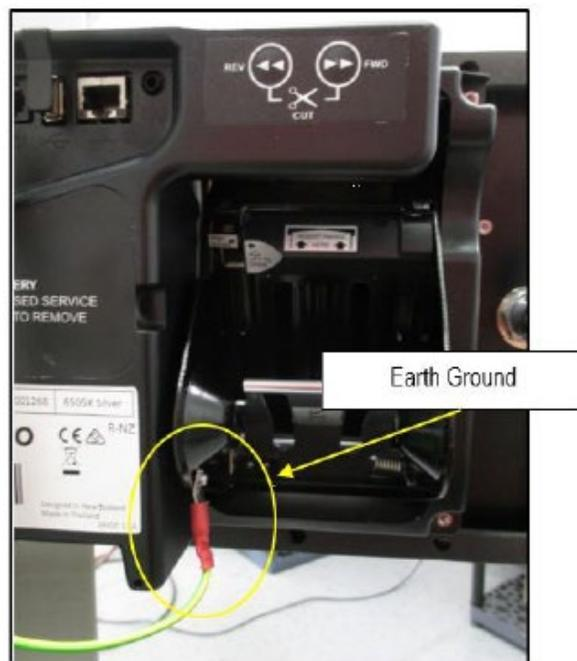

Figure 66
- 14) Disconnect the female spade terminal to the male spade stud on the OPTIC unit's paper spool. See Figure 66